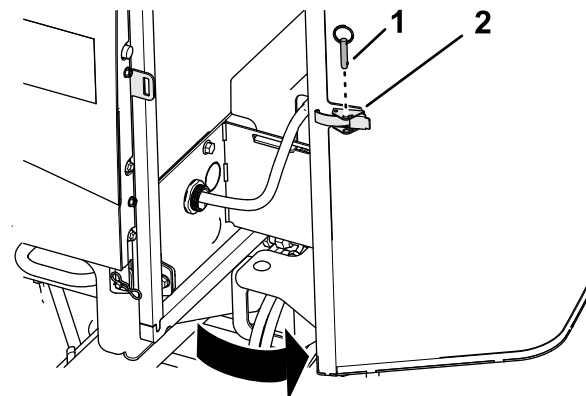

Figure 95
1. Remove the ball pin from the screen latch (Figure 95).